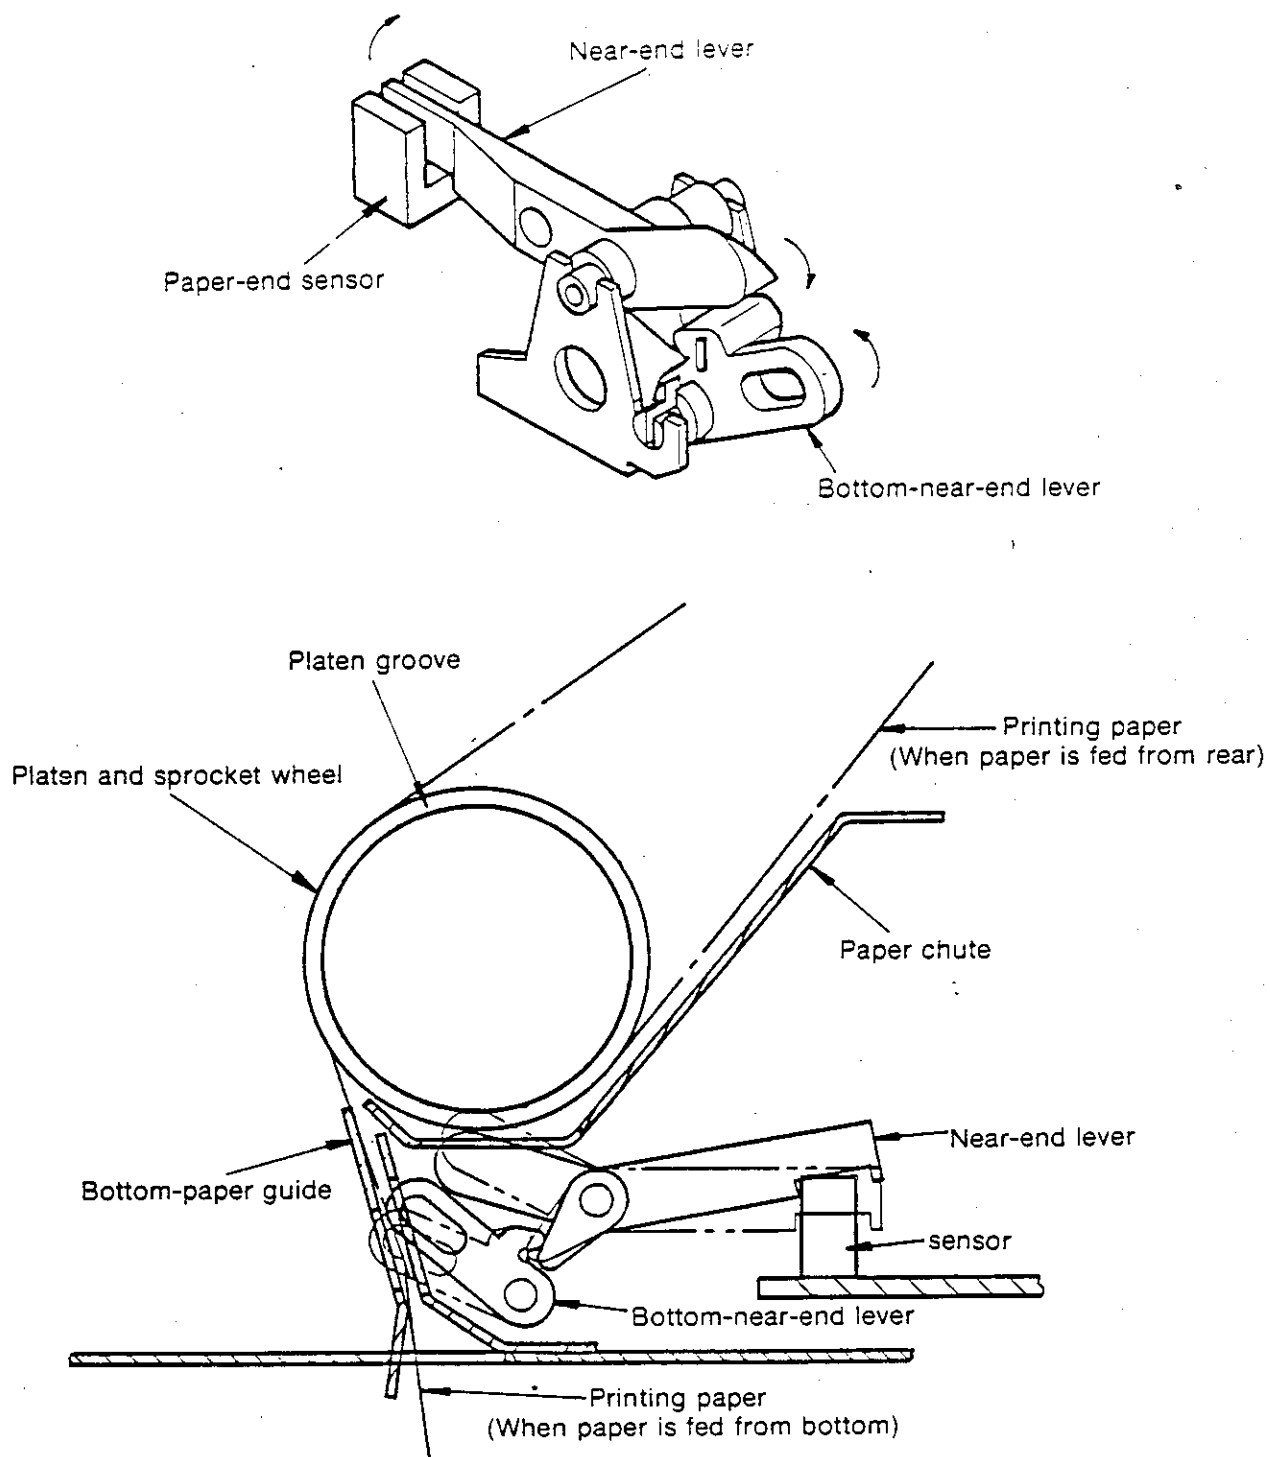

Figure A-11 Paper-end detector mechanism
(1) Rear-paper-feed paper-end (See Figure A-11)
(2) Bottom-paper-feed paper-end (See Figure A-11)